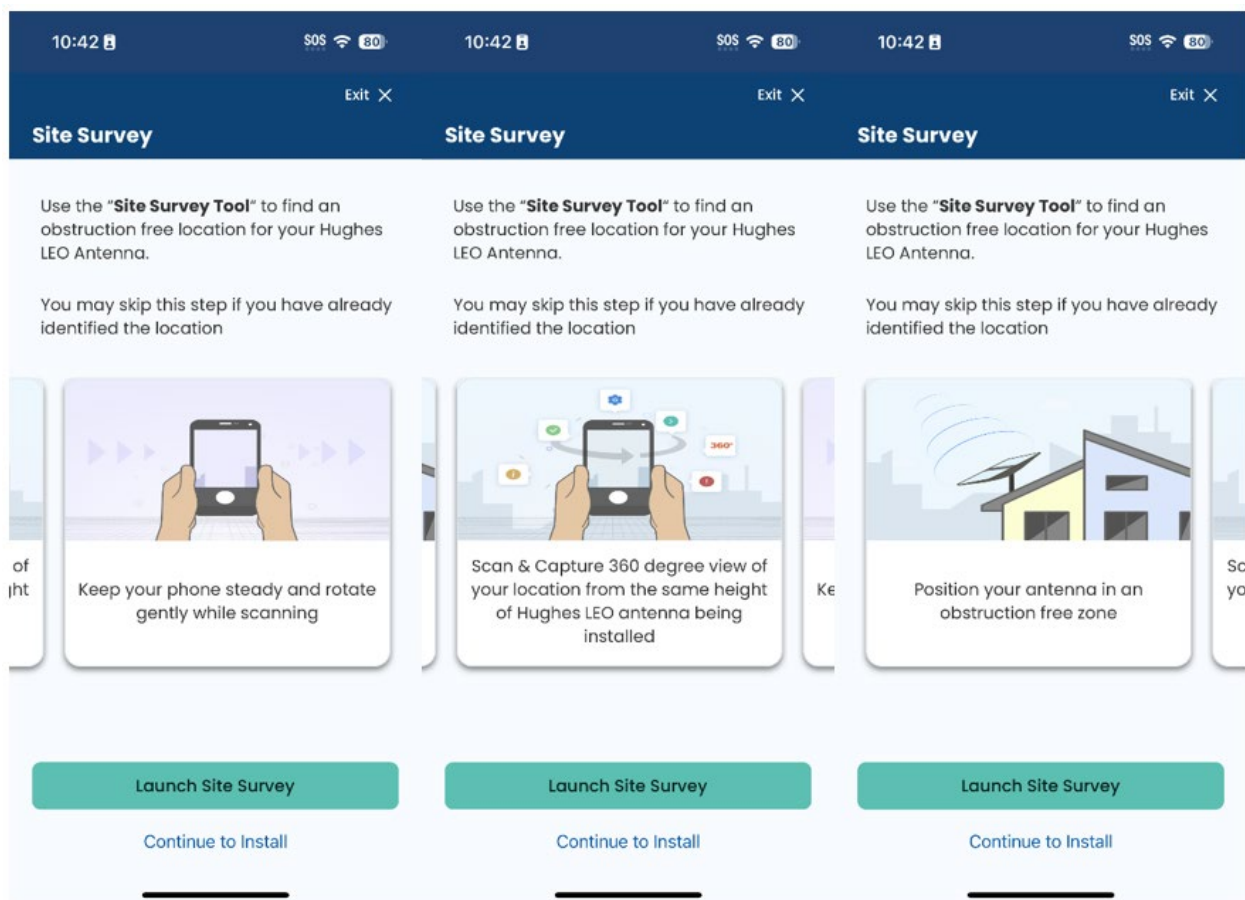

Figure 79: Launching a site survey
2. Navigate to the site survey screen of the app (shown in Figure 79), read the instructions by scrolling through the pages, and then click **Site Survey**.